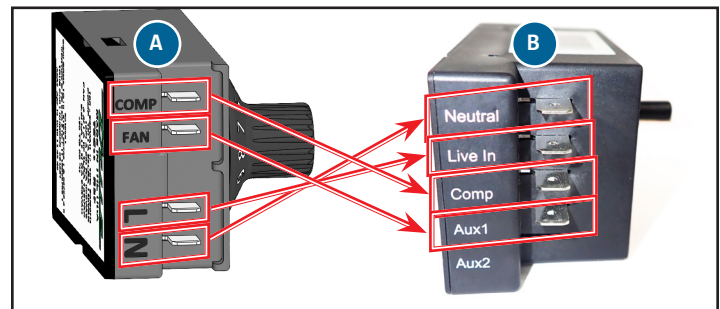

Fig. 6. Existing wiring configuration (A) and the replacement wiring configuration (B).
3. Connect the labeled wires to the replacement temperature control as follows (see fig. 6):